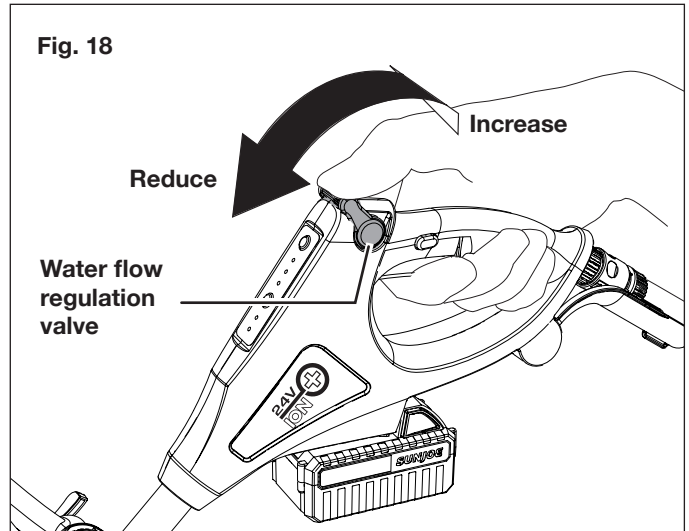

Fig. 18
6. Open the water flow regulation valve and set the water to a suitable flow for the task. Adjust the water flow during operation as needed. Push the valve forward to reduce the water flow, and pull the valve backward to increase the water flow (Fig. 18).